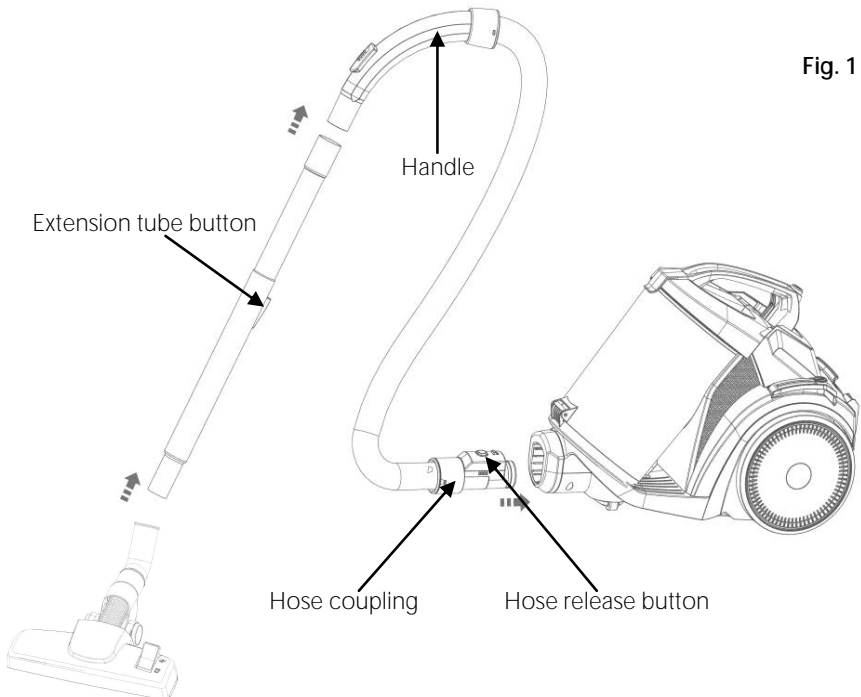

Fig. 1
2. Fit the extension tube onto the end of the curved handle and push fit the floor head onto the extension tube (fig.1). The crevice nozzle can fit onto the curved handle and the extension tube in a similar manner.